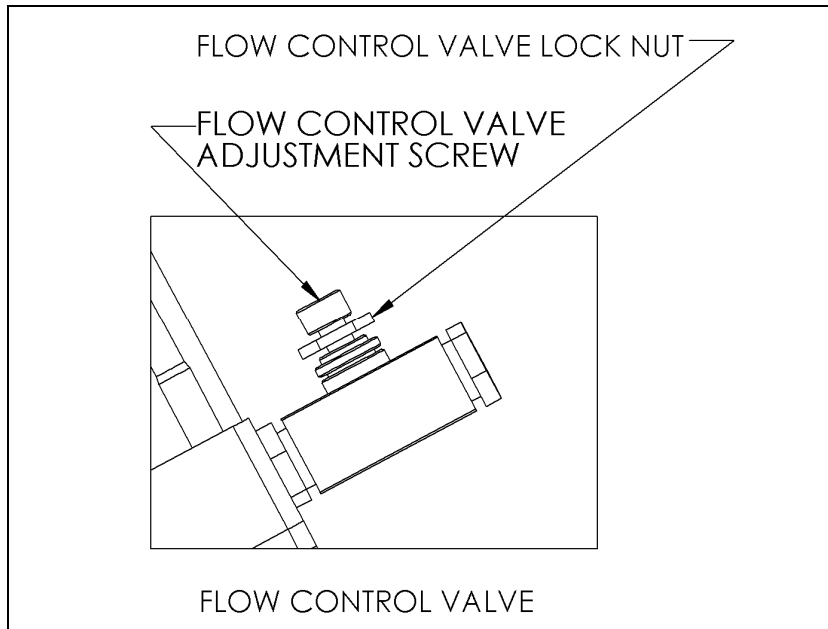

Figure 2 – Adjustable Flow Control Valve
4. If valve has an Air Cushion: Unlock Flow Control Valve by turning Flow Control Valve lock nut counter-clockwise. Turn Flow Control Valve adjustment screw two (2) turns counterclockwise from fully close position. Lock Flow Control Valve by turning Flow Control Valve lock nut clockwise. (See Figure 2.)